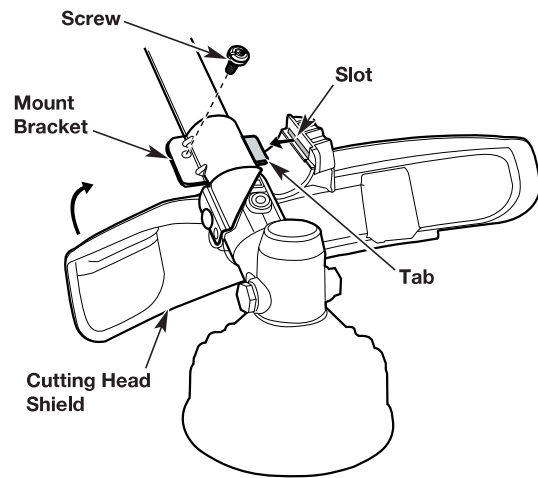

Fig. 2
2. Insert the tab on the mount bracket into the slot in the cutting head shield (Fig. 2).